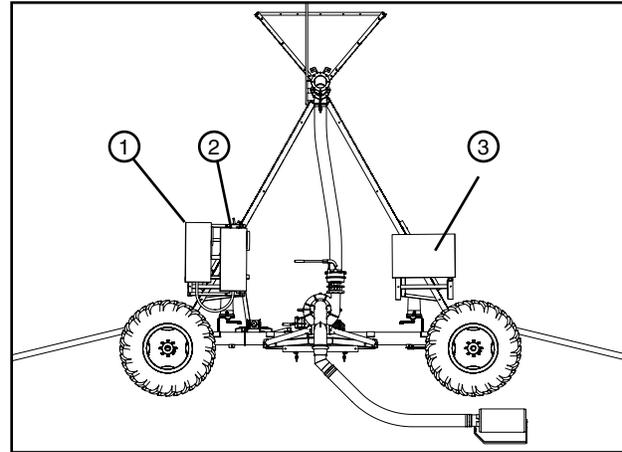

Figure 72-1 1. Cart Disconnect Panel
5. Move the cart disconnect panel switch to the ON position. See Figure 72-1.
6. Move the pump panel disconnect switch to the ON position. See Figure 72-1.
7. Turn the control panel disconnect switch to the ON position. See Figure 72-1.